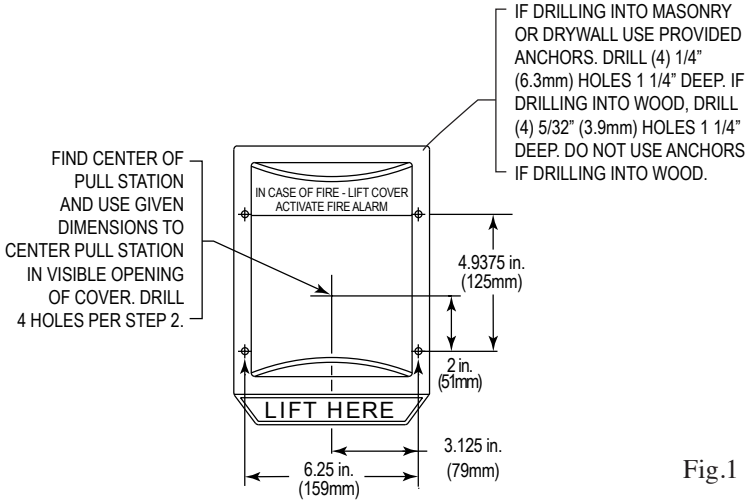

Fig.1
- The power switch is in the "OFF" position (Fig. 5). Using frame or optional STI-1280 backplate (recommended with all Weather Stopper® models) as a template, mark mounting holes on wall taking into consideration placement of pull station or refer to Fig. 1 for dimensional hole placement from center of clear opening. **NOTE:** Be sure cover will not interfere with operation of the pull station when installed.